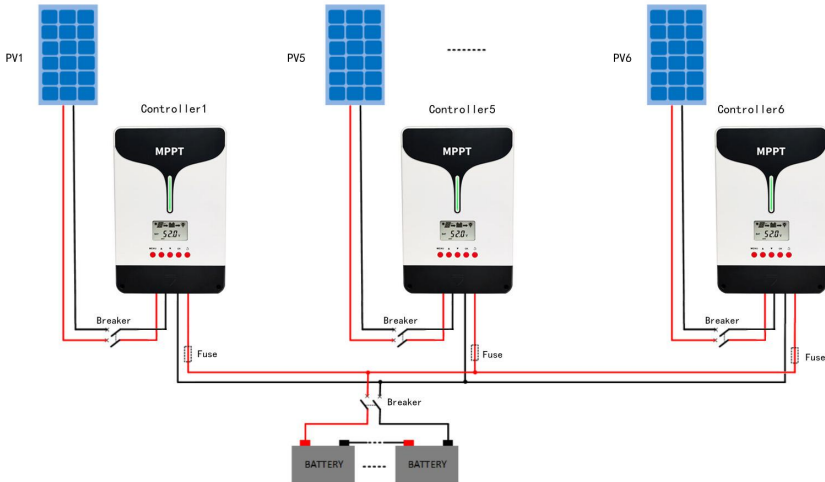

Figure 2-2 Schematic of wiring diagram
Connect the system in the order of ①battery ② PV array ③load(only 60A) in accordance with Figure 2-2, "Schematic Wiring Diagram" and disconnect the system in the reverse order③②①.
①Single controller
② Connection in parallel